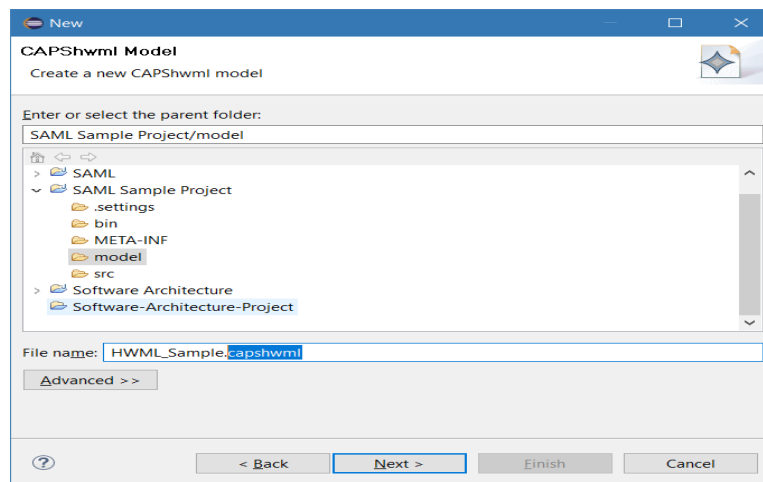

Figure 3.2: Naming an HWML file
- Click on next, select a name (that finishes with **.capshwml** figure 3.2), next again and choose **node specification**;